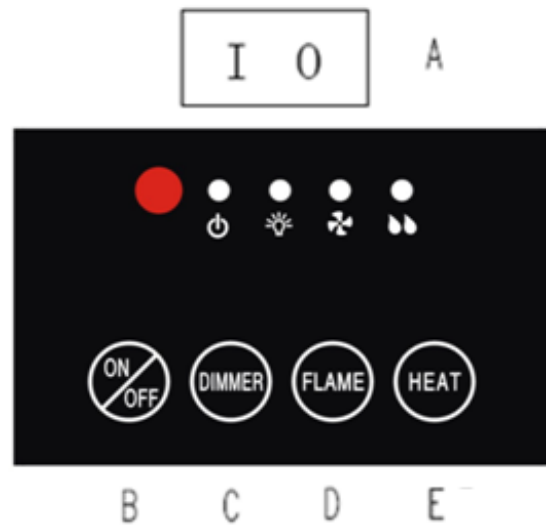

FIG. 8
The control panel is located on the right hand side of the fireplace. (Figure 8)
There are four indicators on the control panel. See Figure 8
1. Prior to use, the handheld remote control requires installation of two (2) AAA batteries for the old style and/or one (1) coin-cell battery for the new style. **Figure 8**